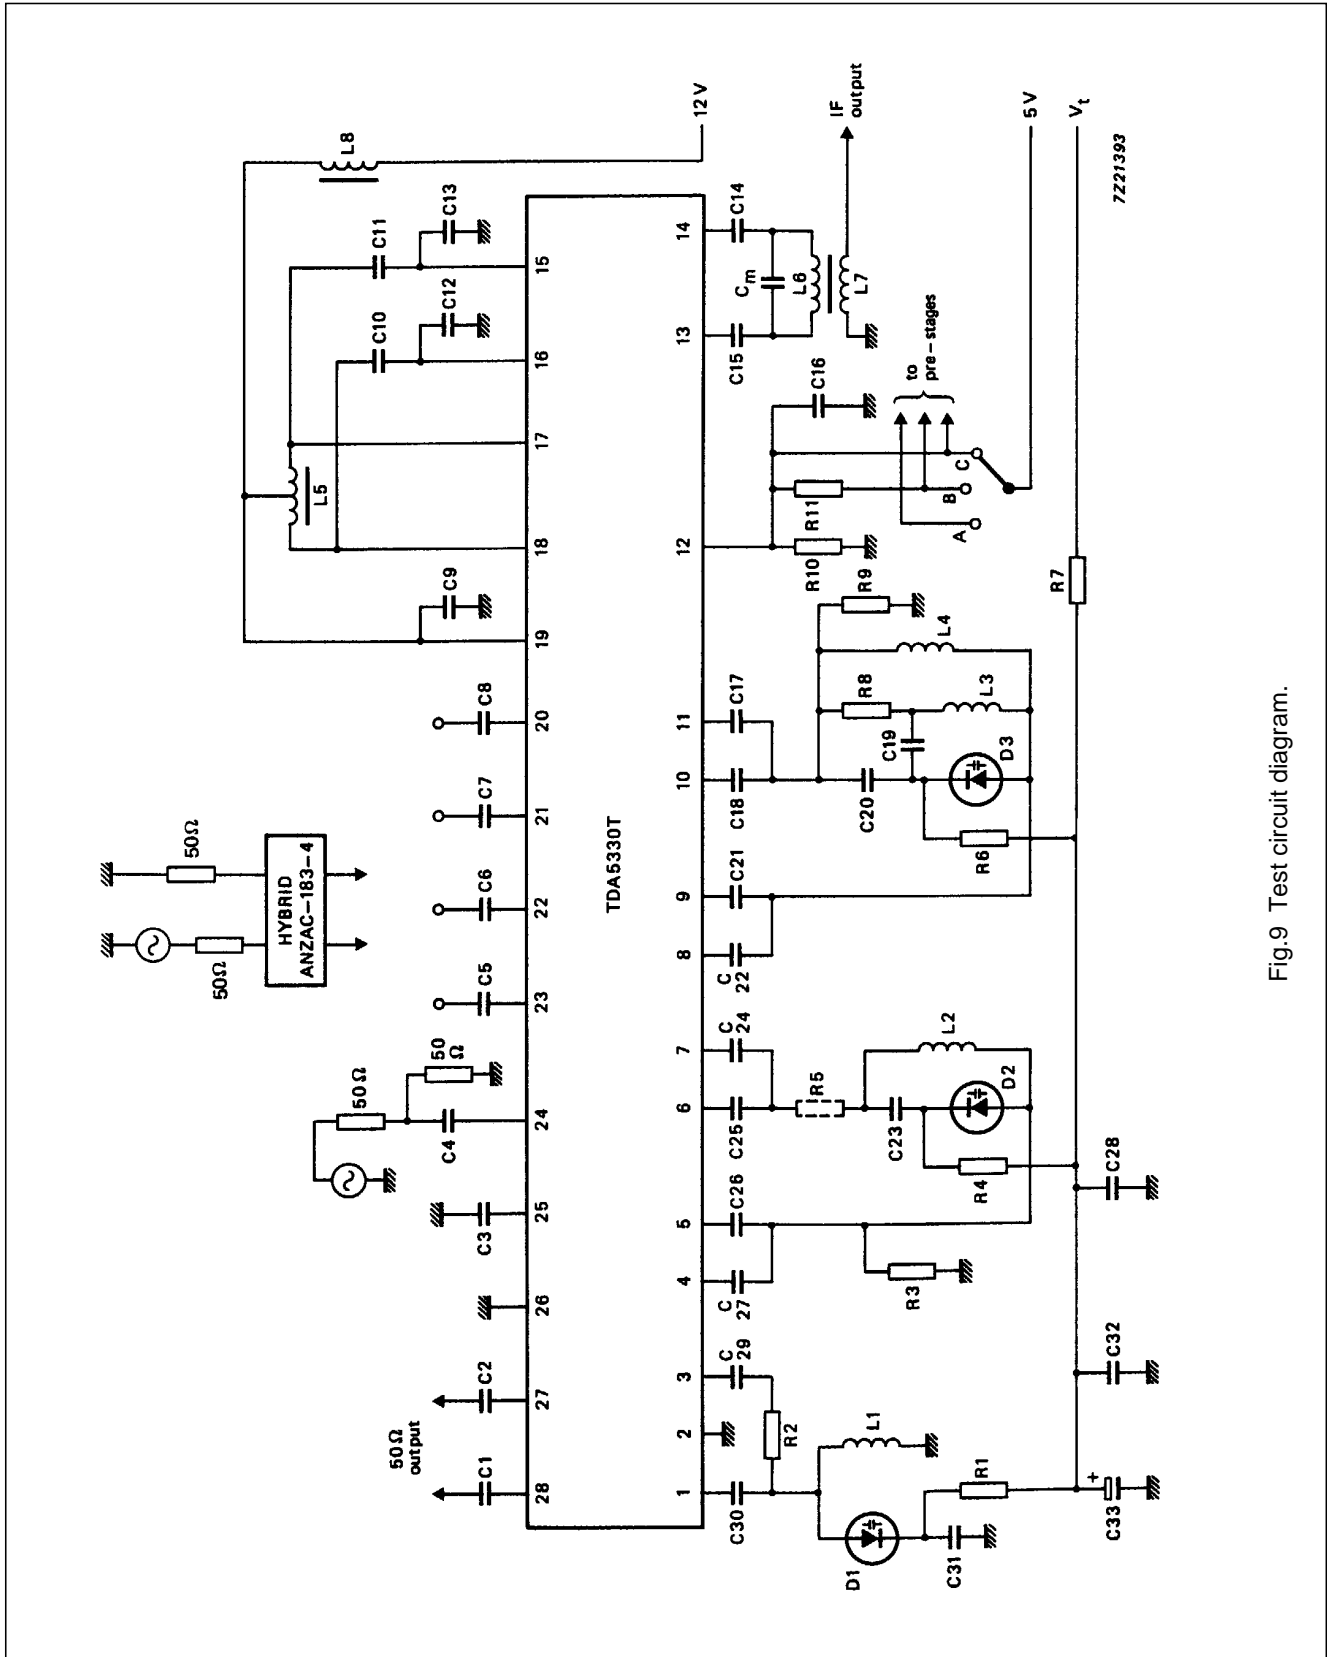

Fig.9 Test circuit diagram.
measured using circuit shown in Fig.9; measurements using hybrid; note 2
4. The gain is defined as the transducer gain (measured in Fig.9) plus the voltage transformation ratio of L6 to L7 (6:1, 16 dB).